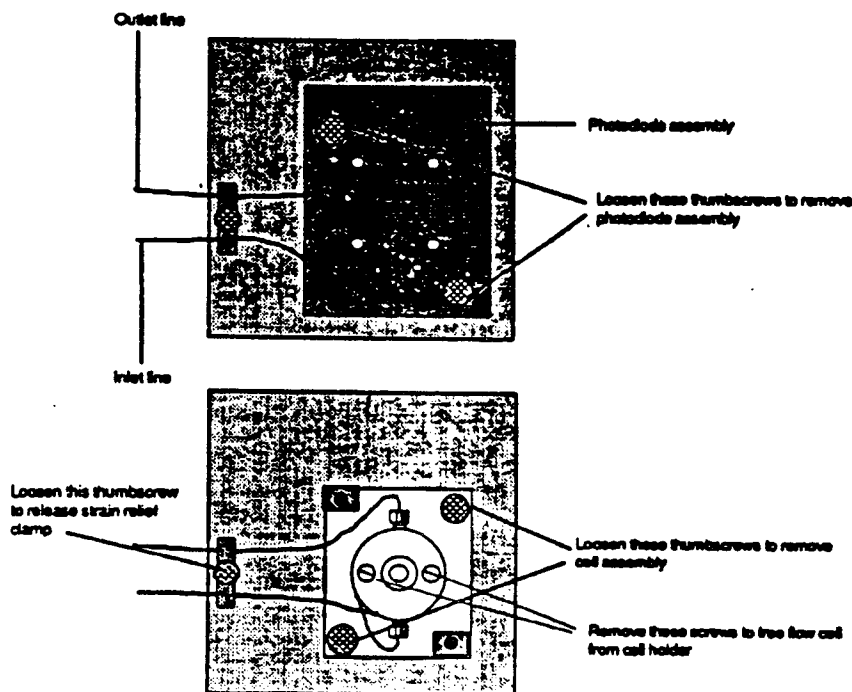

Fig. C.1.
2. Remove the flow cell housing cover by unscrewing its retaining thumbscrew and pulling the cover straight back (see Figure C.1).